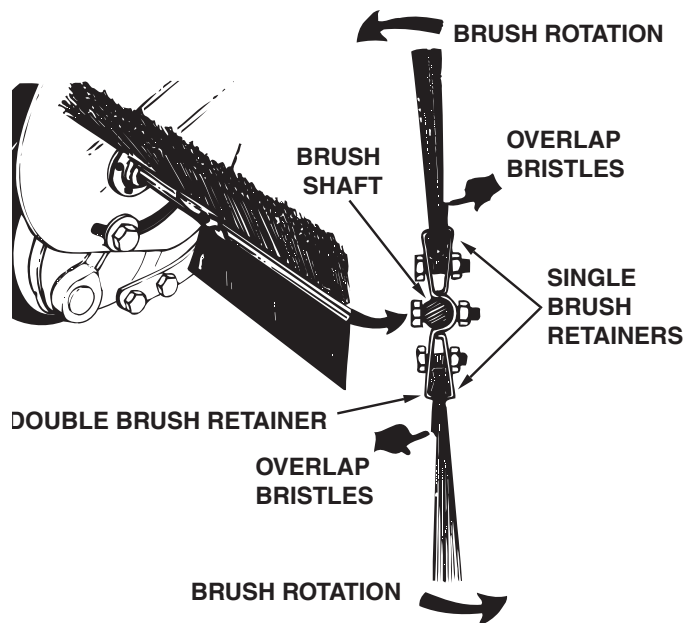

FIGURE 22
- Loosen the hex bolts and lock nuts on two single brush retainers which clamp one brush to the double brush retainers. **Do Not loosen** or remove the bolts which fasten the double brush retainers to the brush shaft. See figure 22.
- Slide the brush out of the retainers, noting on which side of the brush the bristles overlap. See figure 22.
- Install new brush, making sure the bristles overlap on the same side of the brush as before. See figure 22.